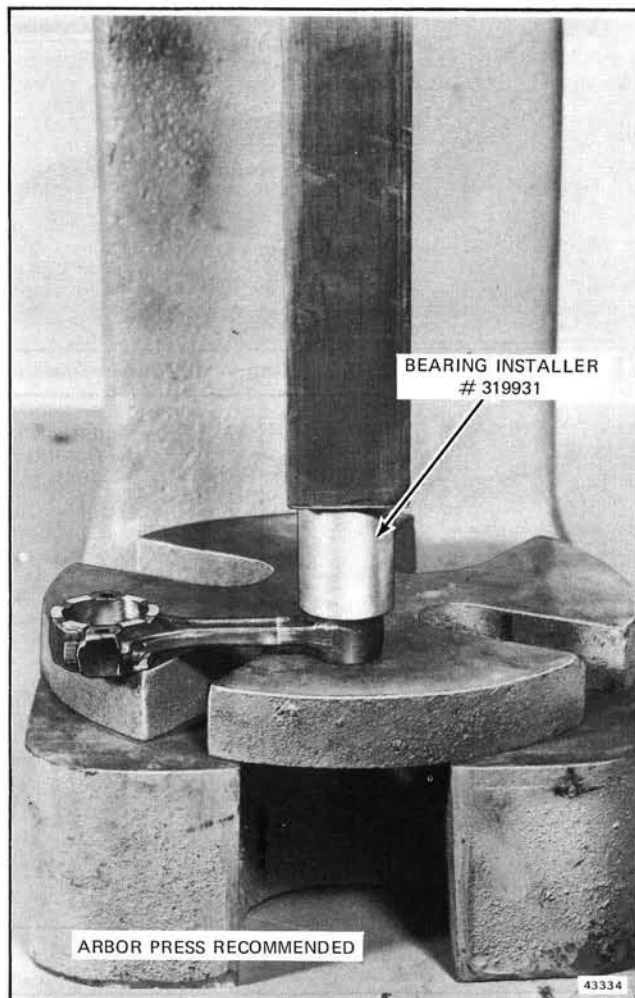

Figure 5-31. Pressing in New Wrist Pin Bearing
a. If removed, press new roller bearings in connecting rods using bearing installer (Special Tool #319931). See Figure 5-31.